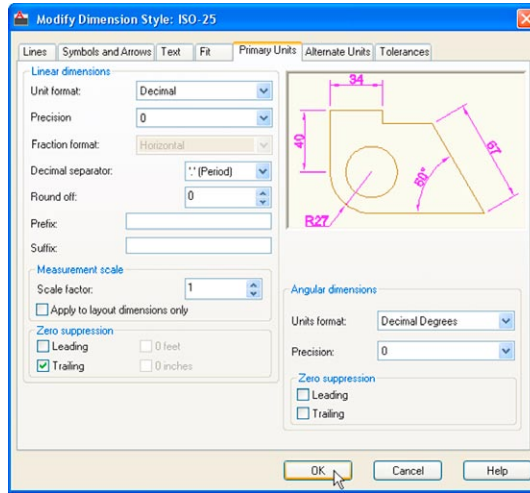

Fig. 4.12 Setting Primary Units in the Dimension Style Manager
5. The **Modify Dimension Style** dialog reappears (Fig. 4.12), *click* the **Symbols and Arrows** tab. Set **Arrow** size to **6**.
7. Then *click* the **Primary Units** tab and set the units **Precision** to **0**, that is no units after decimal point and **Decimal separator** to **Period**. *Click* the sub-dialogs **OK** button (Fig. 4.12).